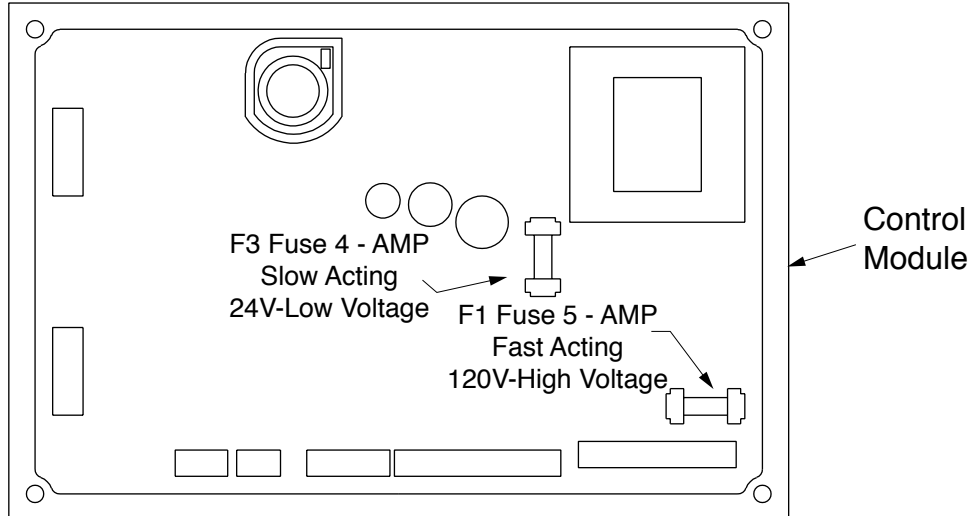

Fig. 1 Control Module Fuse Locations (Housing Cover Removed)
6. When replacing the fuses ensure the amp rating and type of the fuse matches the replacement fuse. Reference Fig. 1, page 4 for amperage and location of the fuses.